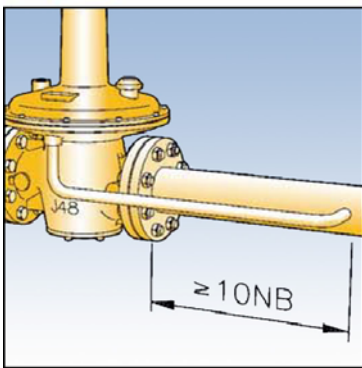

Fig. 2
2. Connect the impulse line (½"), using a jointing compound approved to national standards, and lead to a point downstream not less than ten times the nominal pipe diameter from the outlet. See Fig. 2.